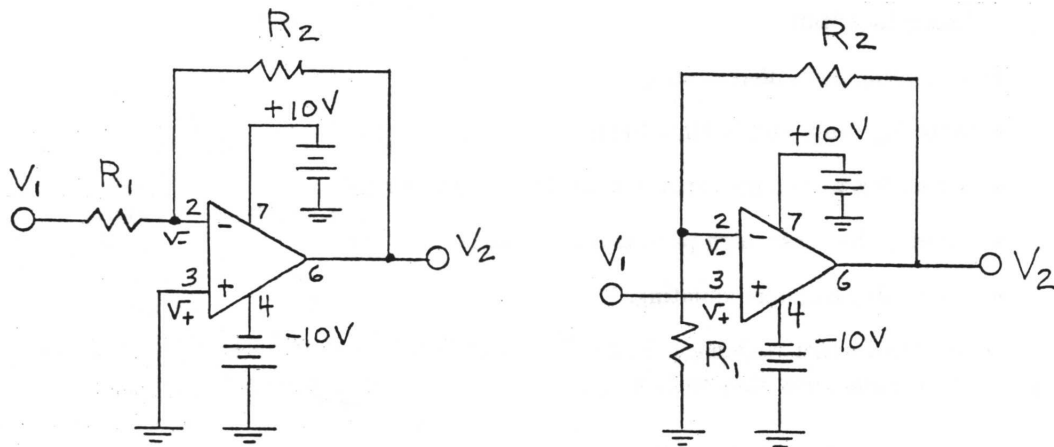

Figure 1: Inverting and non-inverting configurations.
As you would expect, an amplifier increases some electrical quantity, usually voltage. In general,  $V_{Output} = A \times V_{Input}$  where the factor A is called the *Gain* of the amplifier. An integrated circuit operational amplifier such as we will be studying in this lab amplifies the voltage difference  $v_+ - v_-$  between its '+' and '-' inputs (see Figure 1). The output voltage is
The above rules are so generally useful that they are sometimes call *The Golden Rules of Op-Amp behavior*. One implication of these rules, for an ideal operational amplifier is that the closed loop gain  $G$  depends only on the feedback elements and not on its open-loop gain  $A_{OL}$  nor on its internal resistance. Thus an amplifier with poor open-loop tolerance can be made as precise as resistors can be (which is very precise, even 0.1% if you want to pay for it!). (see Figure 1).
**Build an inverting amplifier.** Refer to the left-panel of figure 1 and build that circuit. You should choose  $1000 \Omega \leq R_1 \leq 100 k\Omega$  and  $R_2 \sim 10 \times R_1$ .
**Set proper Power and Signal voltages** Op-amps are “active”, they need power, as well as inputs and outputs. We call the power voltages  $V_{PS}$  (PS for power-supply). We call the input and output voltages (“signal voltages”)  $V_1$  and  $V_2$ . In Figure 1,  $V_{PS} = \pm 18$  V. On your function generator, set the amplitude of  $V_1$  to 1.5 V and the frequency to approximately  $f = 100$  Hz.
- (1) **Determine approximate gain (G)** Apply sine wave and triangle waves at the inputs ( $V_1$ ) and measure/report the amplitude of input and output of the OpAmp. What is the closed loop gain factor  $G$ ? Why do you think this is called an *inverting amplifier*?
- (2) **Sketch the appearance of the output waveforms.** Draw one sketch for sine and one for triangle wave. You are doing this because in the next part you will see various ways they are distorted. Do the sketch large enough that you can clearly add to it. Draw only a single cycle of the wave.